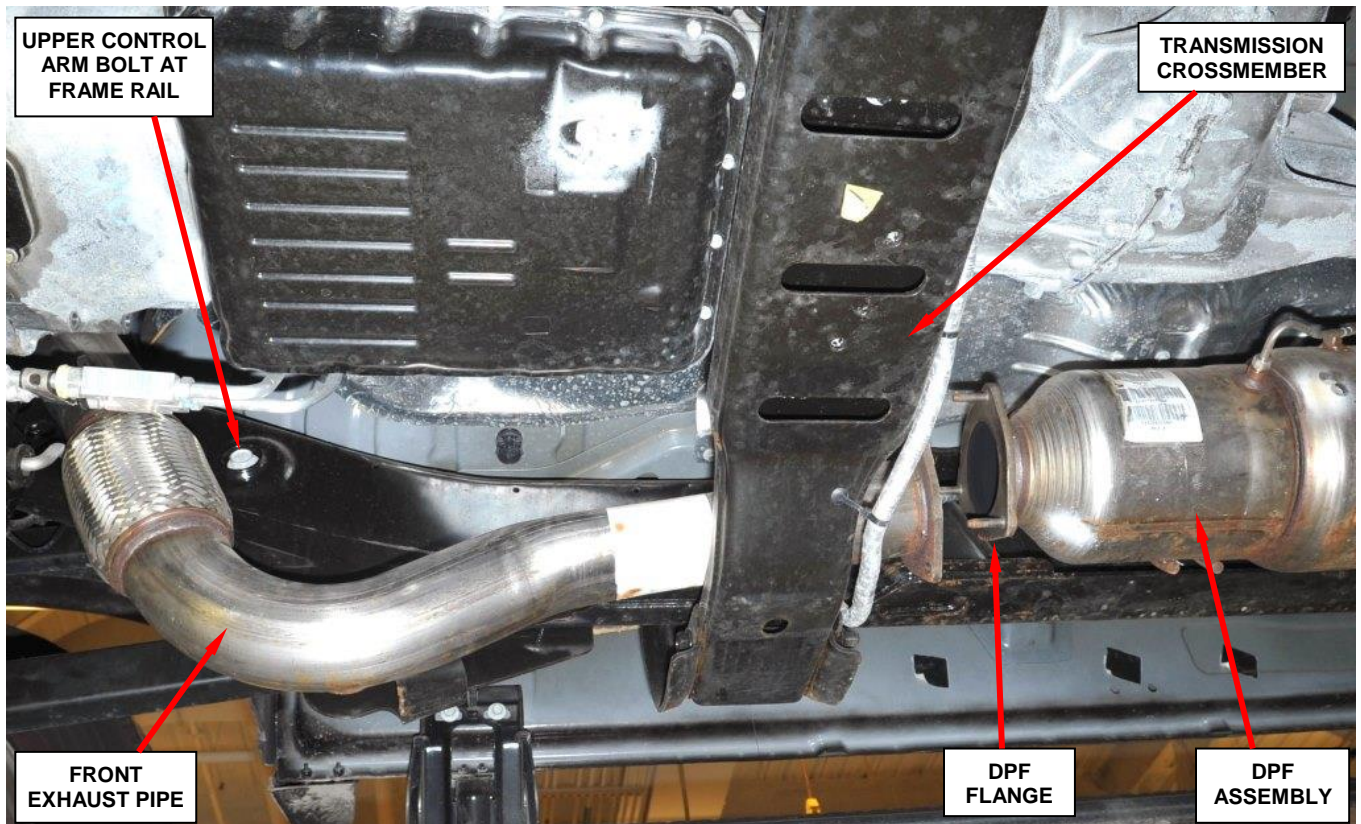

Figure 9 – Lower Front Exhaust Pipe to Gain Access to Upper Control Arm Bolt
- e. Carefully lower the front exhaust pipe to gain access to the upper control arm bolt at the frame rail (Figure 9).
- f. Remove and discard the upper control arm nut and bolt at the frame rail (Figure 9).